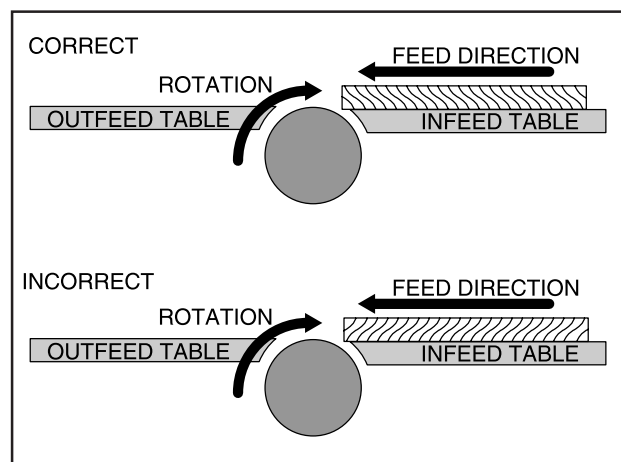

Figure 12. Correct and incorrect grain alignment to cutterhead.
- **Jointing and surface planing with the grain produces a better finish and is safer for the operator.** Cutting with the grain is described as feeding the stock on the jointer so the grain points down and toward you as viewed from the edge (Figure 12).